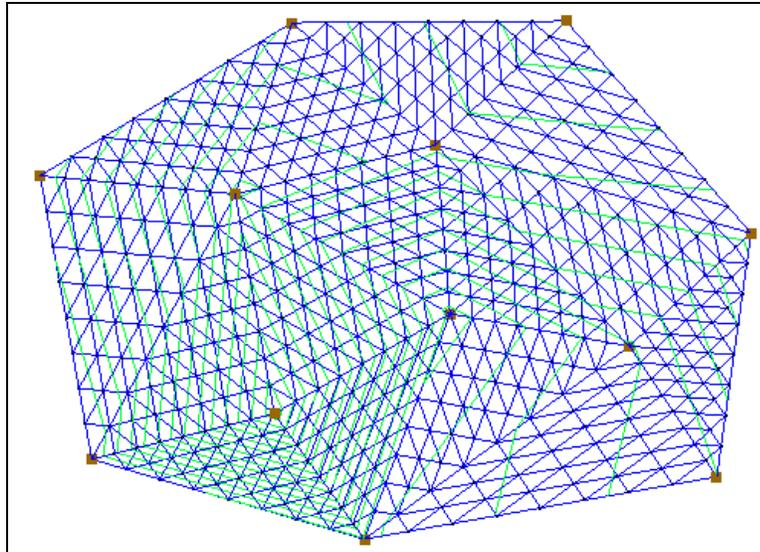

Figure 9 After subdividing
3. Click **OK** to close the *Subdivision Factor* dialog. The Graphics Window should now appear similar to Figure 9.